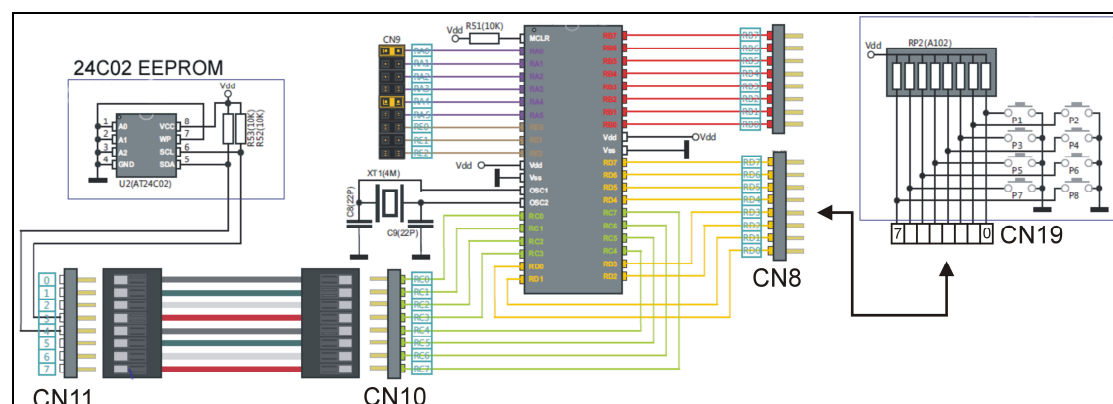

Figure 28 – Schematic of circuit connection
1. Open a new PIC18F4520 project. Open a new file and type in the code shown in Figure 28 and save file as “**Usart\_tx.asm**”. Add this file into the project.
4. Connect CN8 to CN19, CN10 to CN11 (see Figure 28). Test-clips are in between the CN pins and cable plugs.